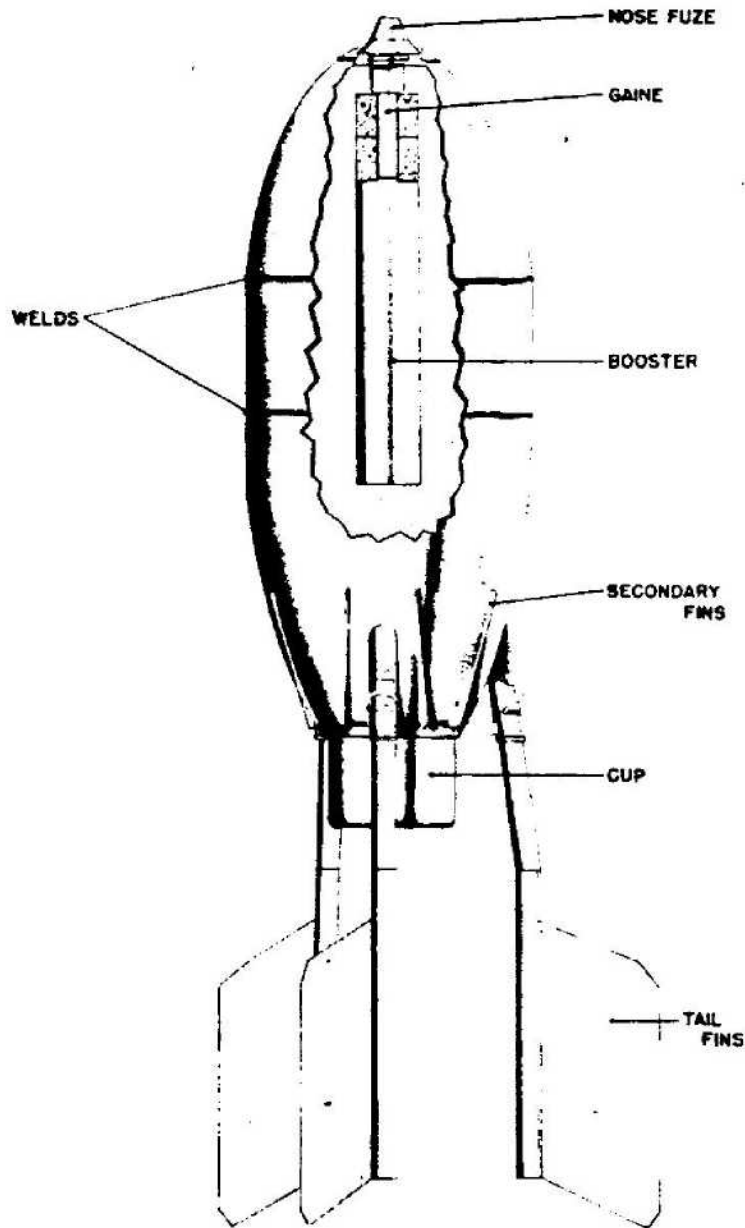

Figure 502—Rodded Bomb for Heavy Infantry Gun 33, 150-mm, 15-cm Stielgranat 42
- K. (E)—6352 (semifixed).
**GERMAN NOMENCLATURE:** 15-cm Stielgranat 42. (See fig. 502.)